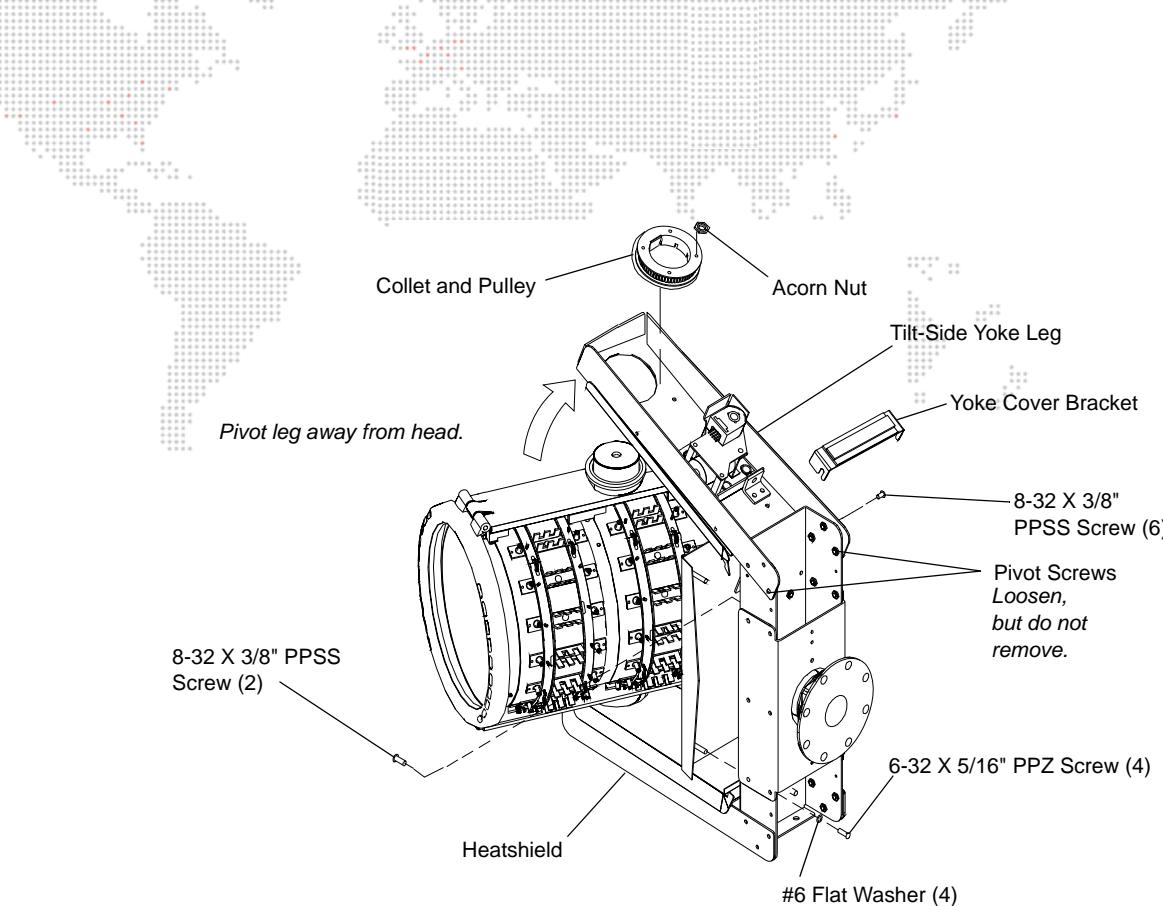

Figure 2-10: Separating VL5/VL5B Head and Yoke Assemblies
- At top yoke cross member, using #2 Phillips screwdriver, remove four 6-32 X 5/16" PPZ screws and four #6 lock washers securing heatshield to yoke cross member, and remove heatshield. **Figure 2-10.**